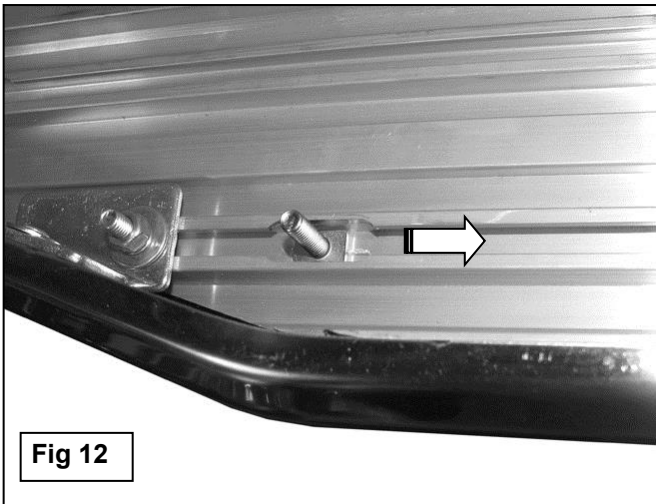

Fig 12
10. Select the driver/left side Running Board. Insert (2) 6mm T-Bolts into each slot and slide them down the channel in the bottom of the Board and into approximate position in line with the Brackets, **(Figure 12)**.